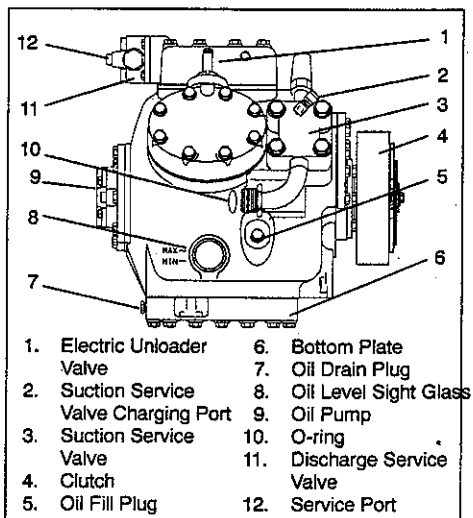

Figure 4-13 Compressor
- c. Shut off the system and immediately record the oil level in the compressor sight glass. See *Figure 4-13*. If the compressor is not level, an average between the sight glass levels will have to be made to determine level.
- d. The correct oil level for this application should be between the bottom and  $\frac{1}{2}$  of the oil level sight glass. See *figure 4-13*. If the oil level is correct, release the coach into service. If the level is above the  $\frac{1}{2}$  sight glass maximum, proceed to step e. If the level is below the  $\frac{1}{2}$  sight glass maximum proceed to step f.
2. Add oil to the compressor crankcase slowly, through the oil fill plug opening (see *Figure 4-13*) to bring level to mid range of allowed levels.